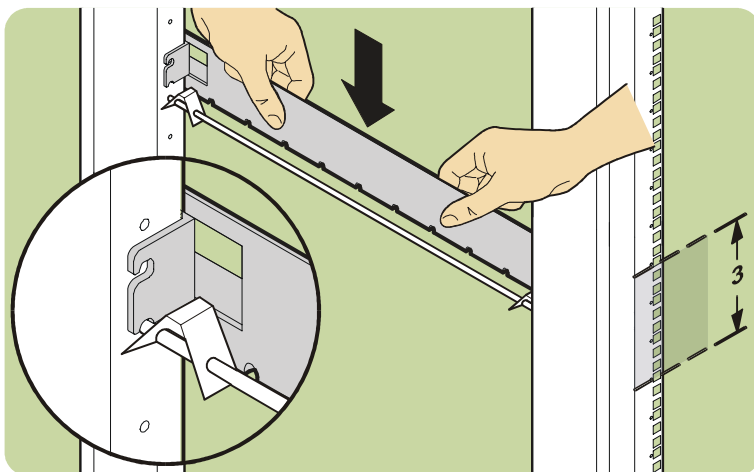

Fig. 34. Positioning rails over locating rods in Compaq 9000
7. Drop the rail tab lower notches onto the locating rod (see Fig. 34). Slide the locating rod clips against the mounting tabs at each end of the rod. (The clips prevent the rod from sliding out of the column.)